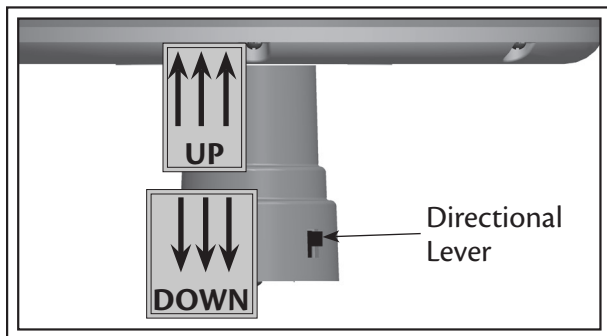

Fig. 16
1. Move the directional lever down for down draft (see Fig. 16).
2. Move the directional lever up for up draft (see Fig. 16).